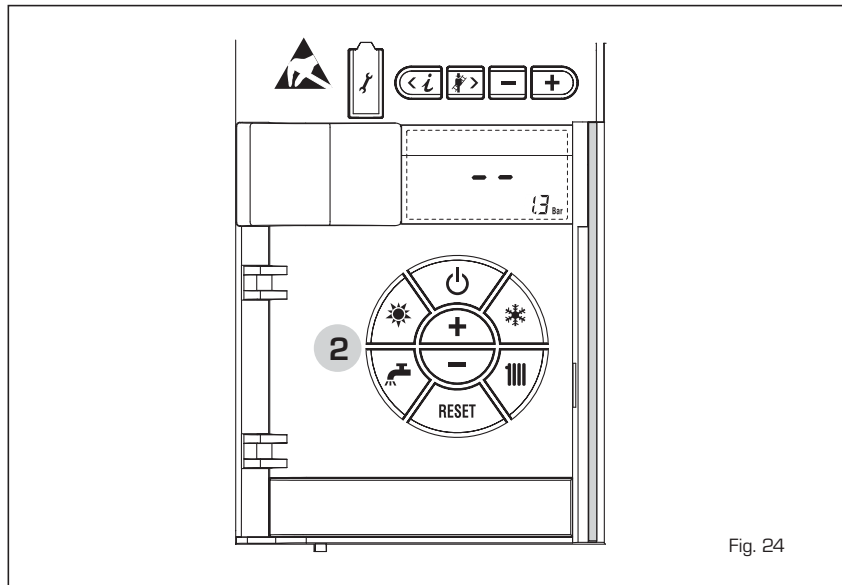

Fig. 24
BOILER IGNITION (fig. 24)
TO SWITCH OFF THE BOILER (fig. 24)
In the case of a short absence, press the key () of the controls (pos. 2). The display will be as shown in the fig. 24. In this way, leaving the electricity and the fuel supply connected, the boiler is protected from frost and from the pump becoming blocked. If the boiler is not used for a prolonged period, it is advisable to disconnect the electricity supply, by switching off the main switch of the system, and to close the gas tap and, if low temperatures are expected, to completely empty the hydraulic circuits to avoid pipes being broken by the formation of ice in the pipes.